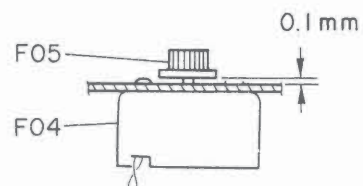

Fig. 2.7.2
- (2) Press fit a new F05 (First Gear) so that the gap between the chassis surface and the bottom of F05 (First Gear) is 0.1 mm as shown in Fig. 2.7.2.
- (3) Solder the wires of F04 (Sled Motor) to the Traverse P.C.B. Ass'y.
- (4) Reassemble other removed parts by reversing the removal procedure.